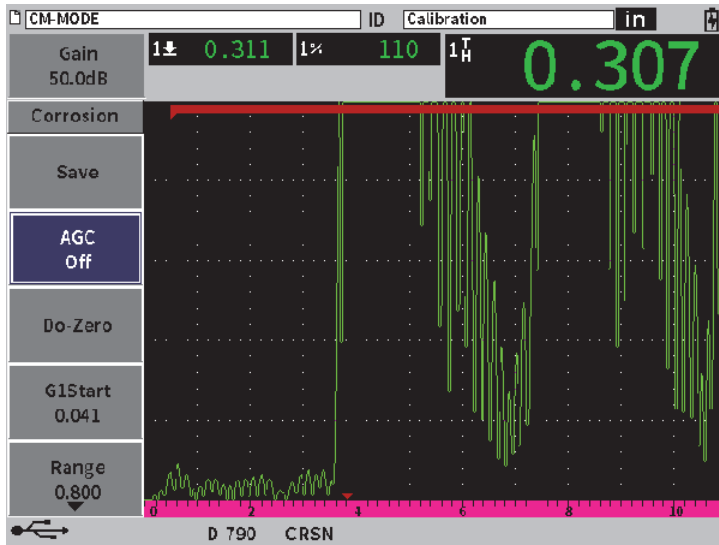

Figure 11-38 AGC Off in precision mode
2. Turn the adjustment knob to set **AGC** to **Off** (see Figure 11-38 on page 199).